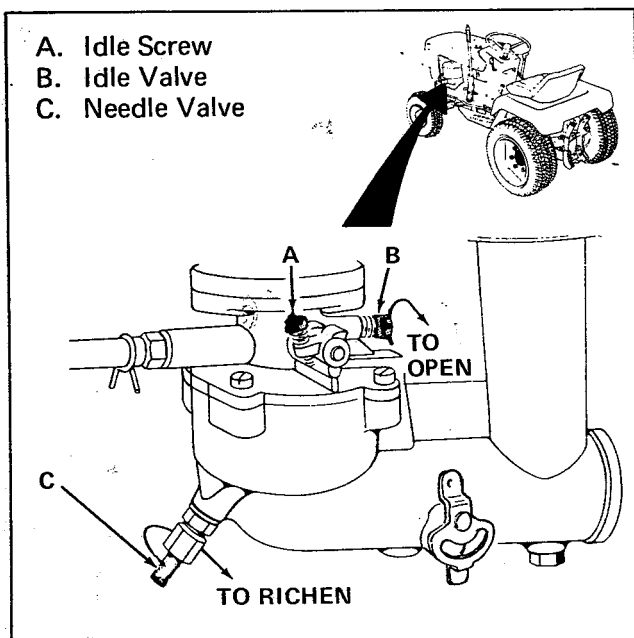

Figure 25. Carburetor Adjustment
Do not overtighten the needle valve (item C, figure 25). The needle valve is easily damaged when overtightened.
3. Turn needle valve (item C, figure 25) in (clockwise) until engine begins to miss to find lean mixture position.